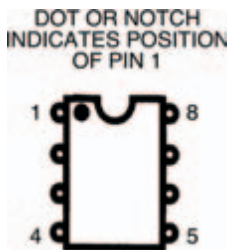

Figure 5.1 A diagram of the normal configuration of any IC: the dot marks pin 1 and the remaining pins run anti-clockwise
We've seen an integrated circuit (IC) before and we know what it looks like, but we've never used one before, so we'll take a closer look at the 555 now. It is an 8-pin dual-in-line (DIL) device and one is shown in Photo 5.5. Somewhere on its body is a notch or dot, which indicates the whereabouts of pin 1 of the IC as shown in Figure 5.1. The remainder of the pins are numbered in sequence in an anti-clockwise direction around the IC.